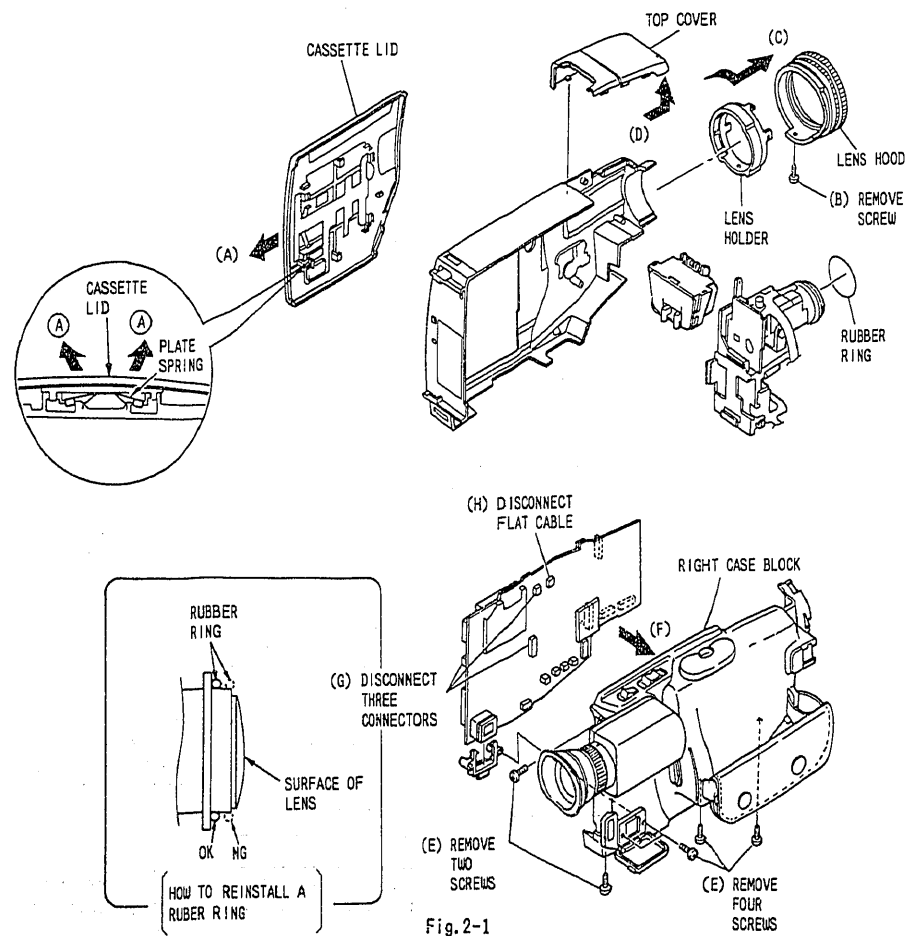

Fig. 2-1
- 2) The rubber rings is removed on its own when the lens hood holder is removed. Be sure to reinstall the rubber ring as show in Fig. 2-1.